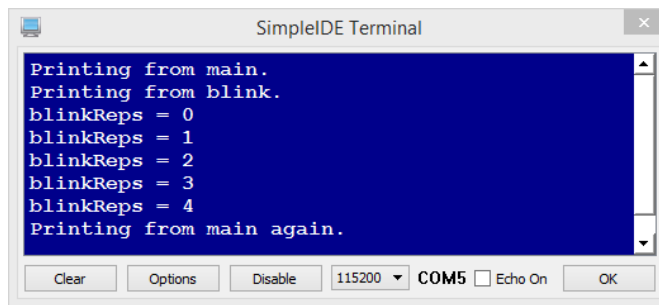

Figure 5-13
Figure 5-13 shows how the Multi-CogPrint example program starts by printing a message from `main` (run by cog 0). Then, it prints a number of messages from `blink` (run by cog 1). After `blink` is done counting from 0 to 4 (and 5 light blinks), it starts printing from `main` (cog 0) again.
- Verify that the terminal behaves as shown in Figure 5-13, counting while the light blinks.